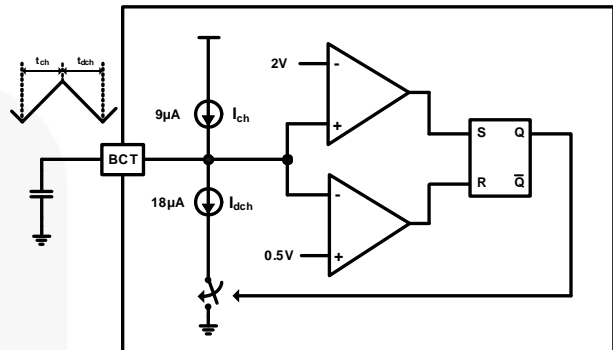

Figure 25. Burst Dimming Oscillator Circuit
**Burst Dimming Oscillator:** The burst capacitor timing (BCT) is charged by the internal reference current source. The triangular waveform charges up to 2V. Once the BCT voltage is reached, the capacitor begins discharging down to 0.5V. Next, the BCT starts charging again and a new switching cycle begins, as shown in Figure 25. The burst dimming frequency is programmed by adjusting BCT value. The burst dimming frequency is calculated as: